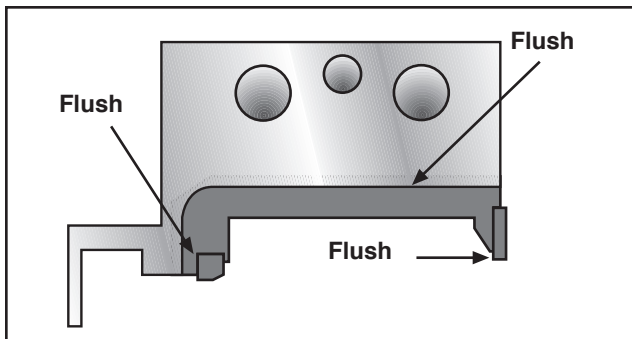

Figure 26
- 8.3 Place the split joint gasket in the groove. Make sure it is flush with the back of the gland gasket, the back and top of the seat gasket, and the top of the split joint gasket groove. Hold it in place for 10 seconds. See Figure 26.
- 8.5 Align the split joint gasket with the seat gasket and gland gasket as shown in Figure 26. Hold it in place for 10 seconds.